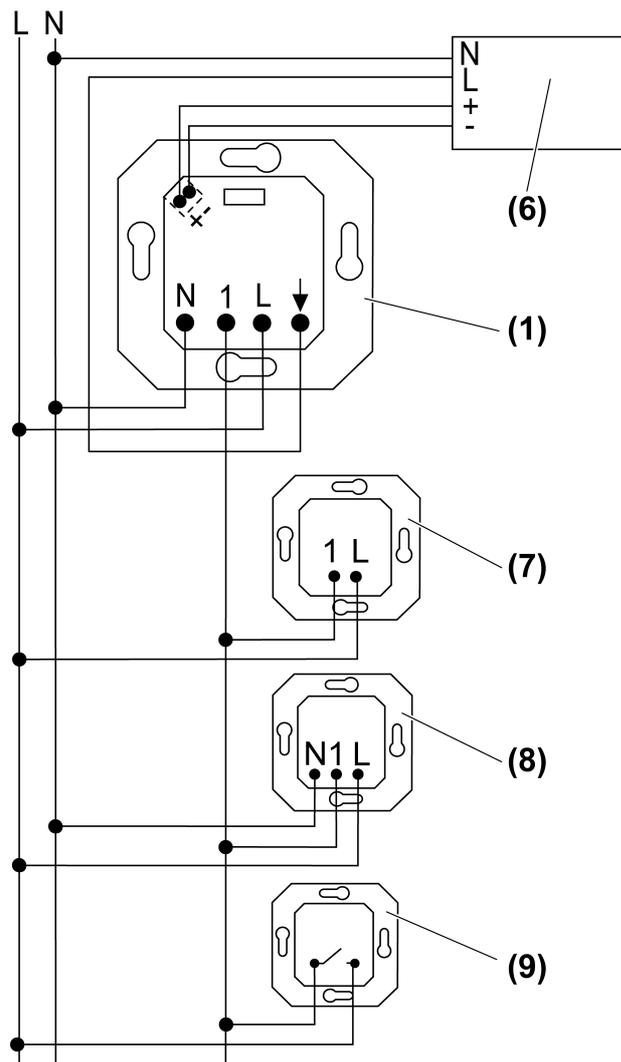
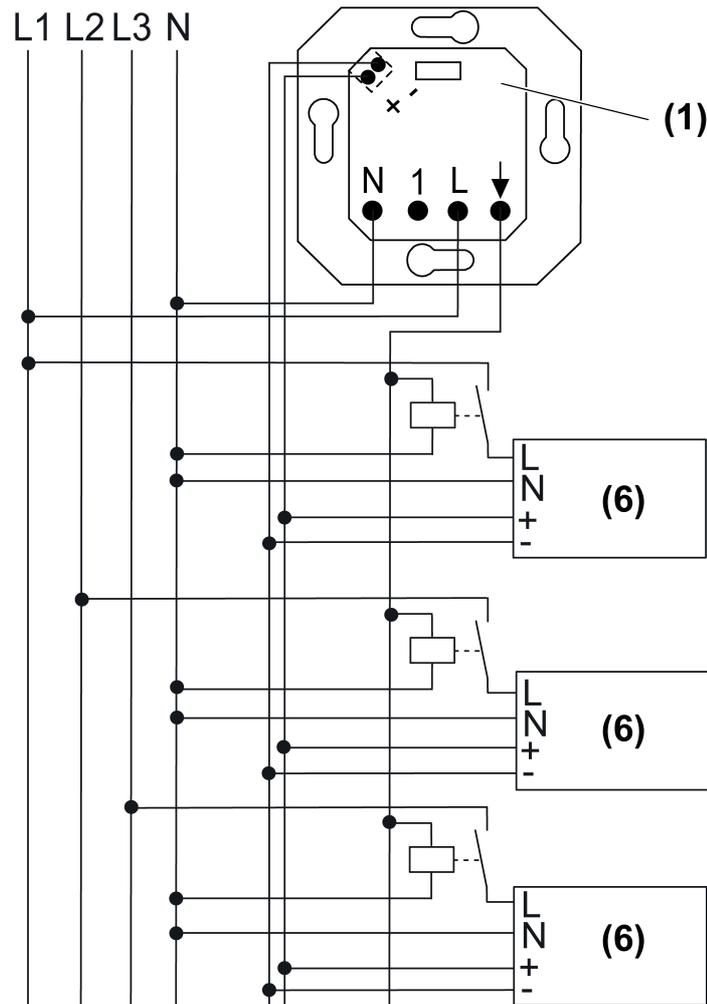

Figure 2: Connection diagram with optional extensions
Figure 3: Connection diagram with various line conductors
- Connect 1-10 V insert according to connection diagram (Figure 2) or (Figure 3).